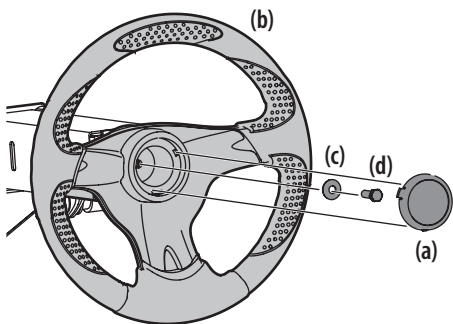

Figure 2-6
3. Place the Belleville washer (c) over the steering wheel (b) and secure with the hex lock screw (d). See Figure 2-6.